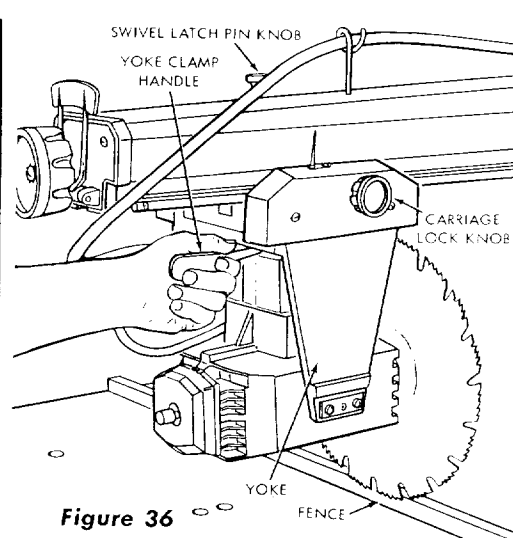
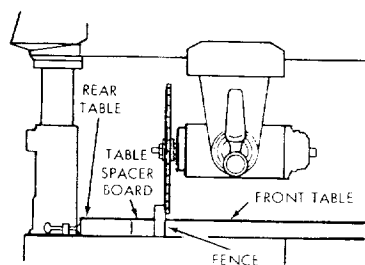
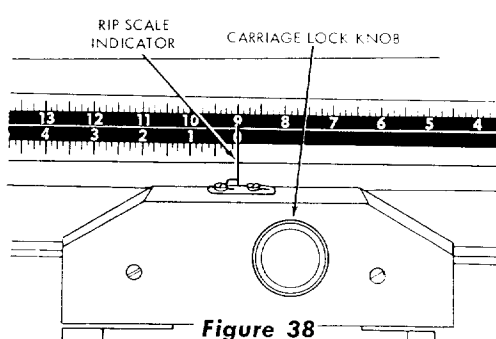

Figure 36
Figure 37
Figure 38
table), loosen the yoke clamp handle (figure 36), lift up on the swivel latch pin knob and rotate the yoke as shown to index the yoke 90° from the cross-cut position. This will locate the saw blade between the motor and the fence. Lock the yoke by tightening the yoke clamp handle. (See figure 36.)
- Loosen the carriage lock knob (figure 36) and move the motor until the edge of the blade, when spun by hand, just touches the front face of the fence. (See figure 37.) The rip-scale indicator (on the right-hand side of radial arm) should now read "0"-inches on lower portion of the "In-Rip" scale. (See figure 38.) If not, loosen screws and shift the indicator until it is aligned with the "0" mark, then tighten the screws.
NOTE: With the saw blade and fence in the position shown in figure 37, the lower portion of the "In-Rip" scale is used. If the fence is re-located at the extreme rear position, the upper portion of the "In-Rip" scale would be used.